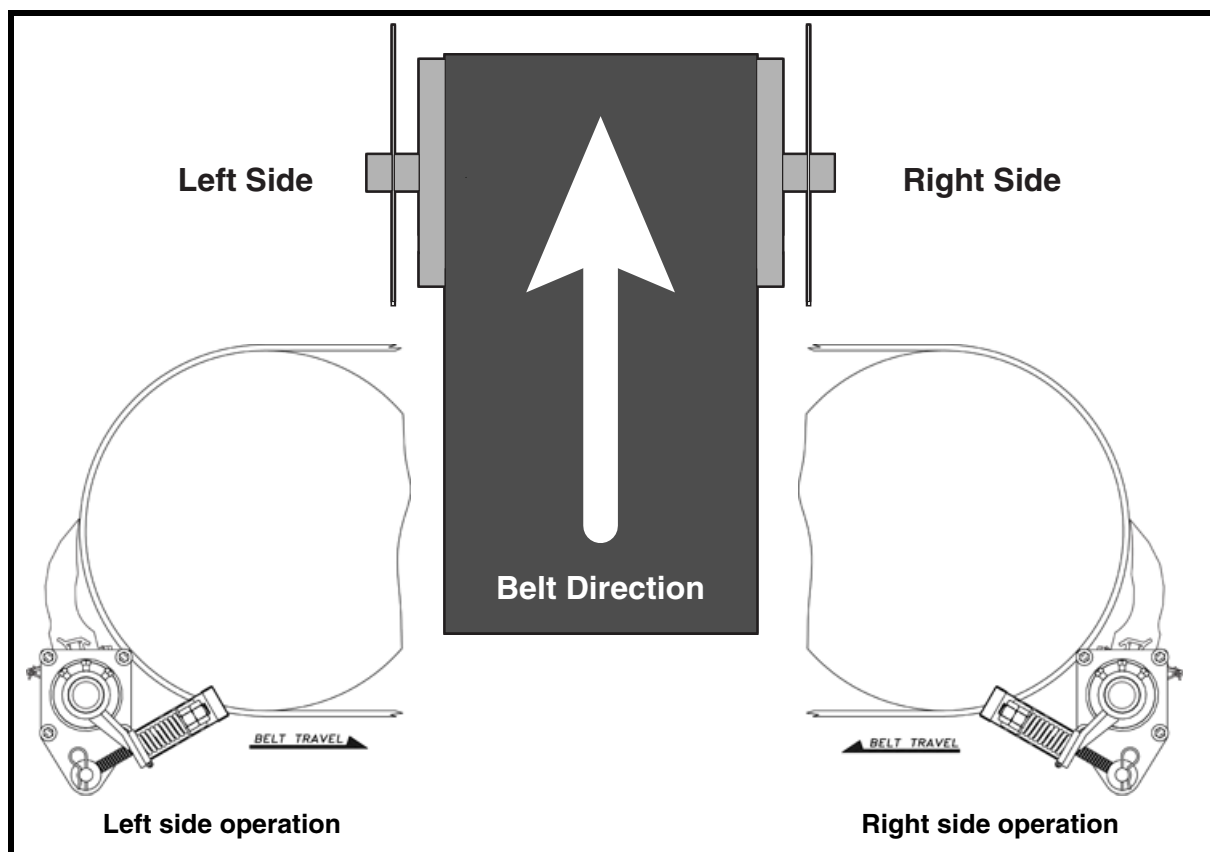

Figure 9. Tensioner Orientation
1. Determine the direction to install the lever arm on the tensioner depending on the belt direction, as shown in Figure 9. Then install the lever arm assembly as required for your application.